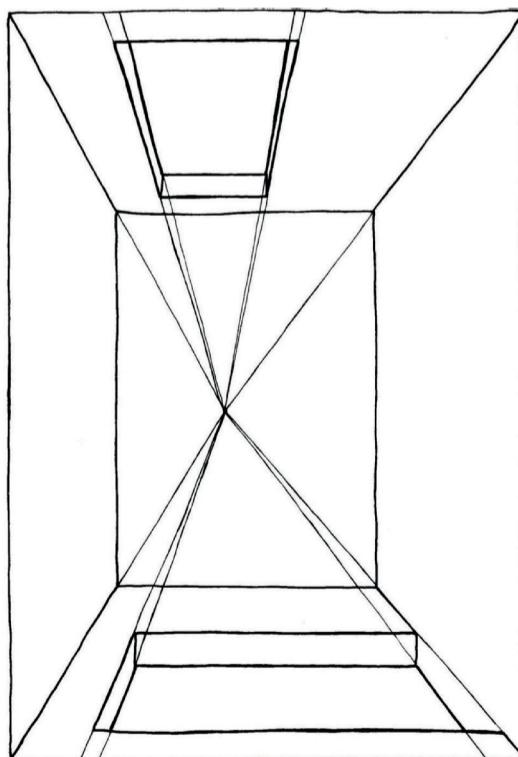

Figure 12: Single vanishing point drawing of the inside of a classroom
2. Now evaluate your sketch. Compare it to Figure 12.